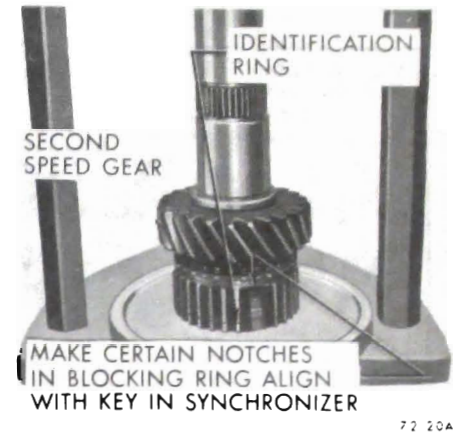

Figure 72-20 - Installing Second Speed Gear
1. Install second speed gear blocking ring on mainshaft. Using ram press or arbor press and Press Plate J-8609, press second-third speed synchronizer assembly (with identification ring toward front of transmission) onto mainshaft. See Figure 72-20. Install retaining snap ring.